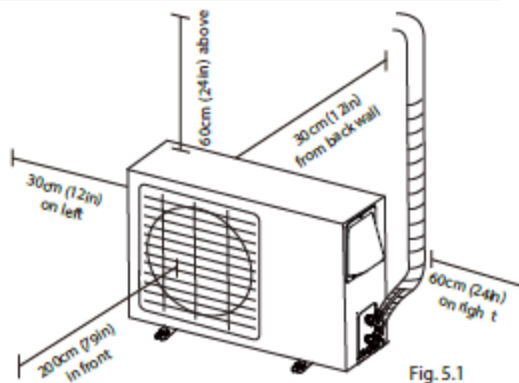

Fig. 5.1
- ☑ Meets all spatial requirements shown in Installation Space Requirements ( Fig. 5.1 )